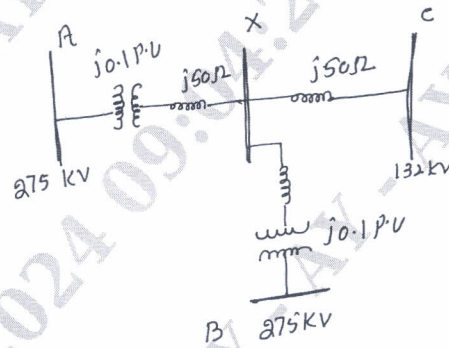

Fig.Q8(b)
- b. Three generating station are connected to a common bus bar X as shown in Fig.Q8(b). For a particular system load, the line voltage at the bus bar falls by 2 KV. Calculate the reactive power injection required to bring back the voltage to the original value. All P.U. values are on a 500 MVA base.